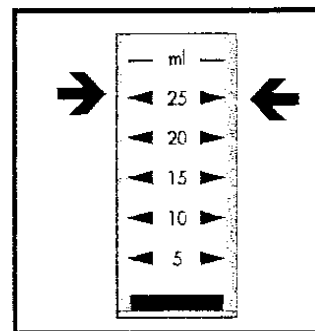

Figure 1
1. Fill the sample cup to the 25 mL mark with your sample (fig. 1).